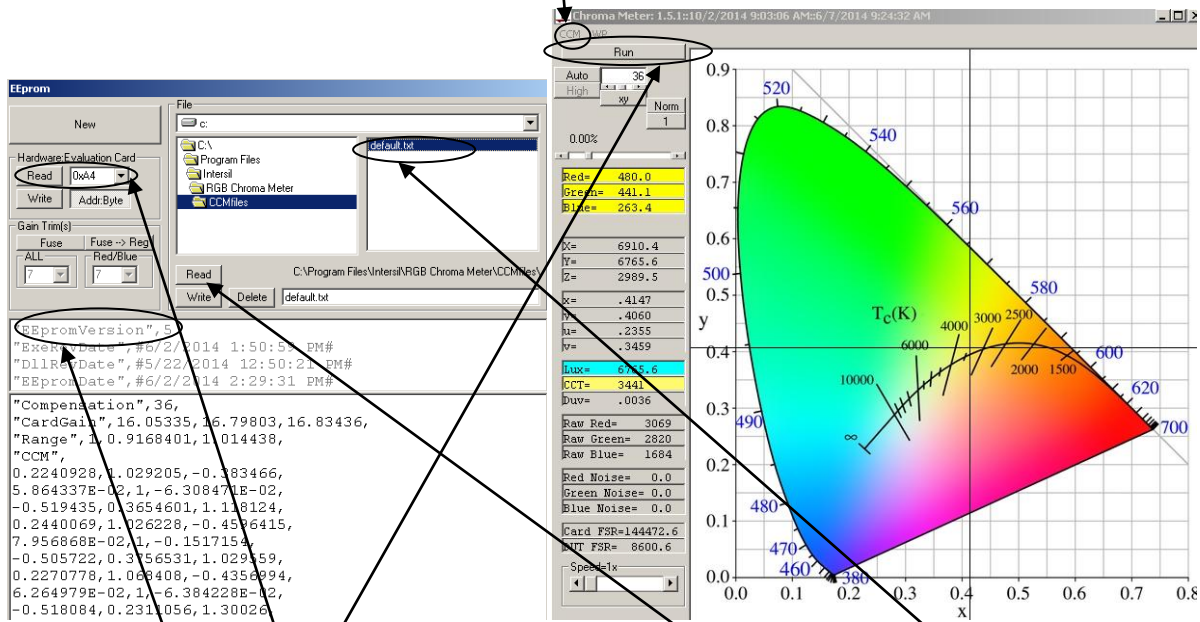

Figure 1. Chroma Meter GUI and related EEprom GUI
- b. Set I2C address to 0xA4 for Evaluation card as shown in Figure 1